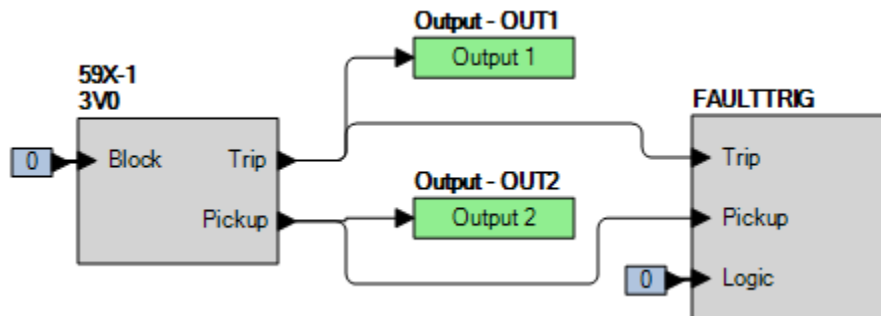

Figure 60-1. BESTlogicPi.us Settings (3V0 Mode)
Step 2: Use BESTCOMSPi.us to configure the BESTlogicPi.us programmable logic shown in Figure 60-1.
Step 4: Prepare to monitor the 59X-1 function operation. Operation can be verified by monitoring OUT2 (see Figure 60-1).